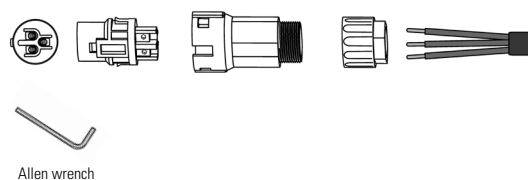

Fig. 28. Inserting the bare wire into the terminal.
- c. Insert the stripped end of the three cables into the corresponding hole of the terminal head (yellow-green cable into the PE port, phase into the L port and neutral into the N port). Pull from the cable to check that it is properly connected, as shown in Fig. 28: